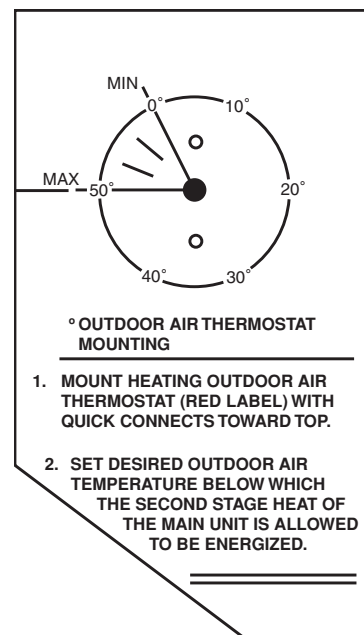

Fig. 19 — Outdoor-Air Thermostat Heating Label
2. On units produced prior to December 2004, the labels for the Heating thermostats may require replacement. The correct label is shown in Fig. 19. See Service Managers Bulletin (SMB) 04-0044 for obtaining a current outdoor air thermostat for heating label.